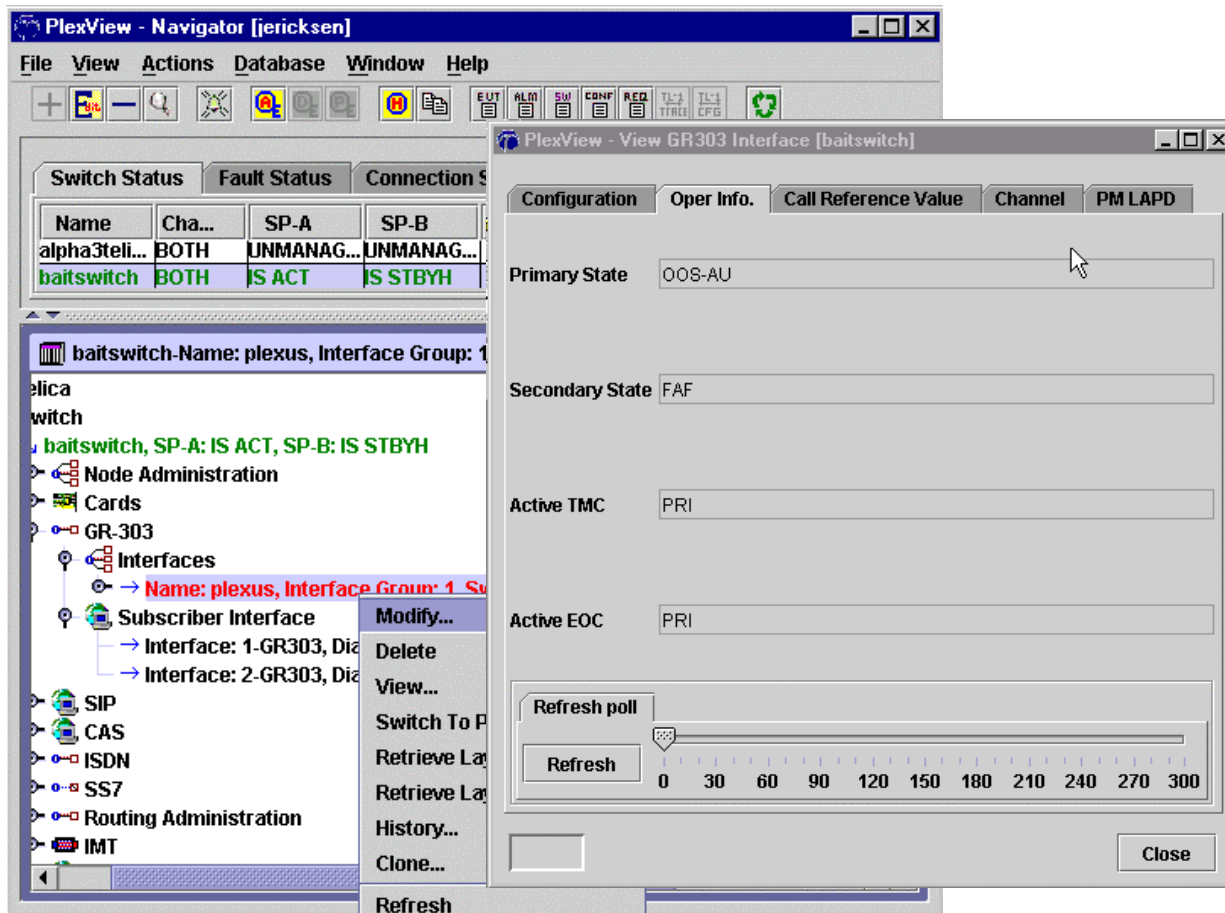

Figure 1. GR-303 Interface Group Status
5. Retrieve the status of a GR-303 interface group by double-clicking the switch, *GR303* and *Interfaces*. Right-click the *interface*, click *View* and then select the *Oper. Info* tab. See Figure 1. Reference **DLP-643** for detailed information for the command.